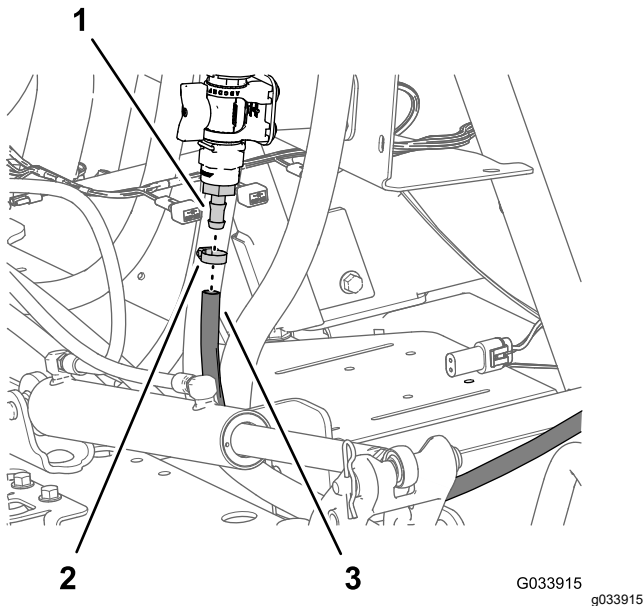

Figure 36
6. Assemble the spray-wand hose onto the barbed-hose fitting of the control valve, and secure the hose to the fitting with a hose clamp (Figure 36).